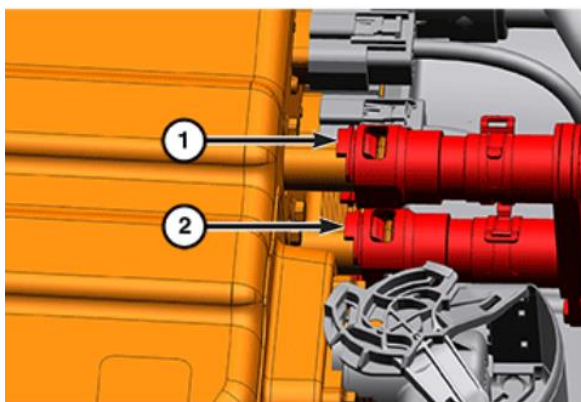

Figure 15 – Quick Connect Couplings
23. Disengage the quick-connect couplings and carefully remove the coolant inlet (1) and outlet (2) hoses from the high voltage battery (Figure 15).